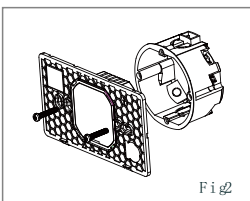

Fig 2
Step 2: Make sure that the wires are without electricity, connect the thermostat with the wires according to the wiring diagram, and then fix the mounting plate on the cassette with(Fig2).
Step 2. Push the LCD assembly up and down to remove the mounting plate. See Fig 2.